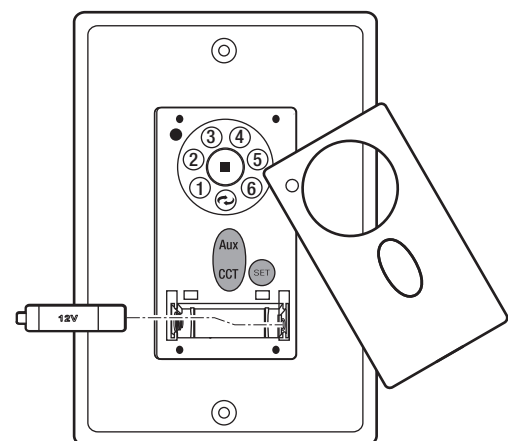

Figure 16
Remove the panel from the transmitter and then install one 23A/12V battery (included). To prevent damage to transmitter, remove the battery if not use for long periods of time. (Fig. 16)
3. Within 30 seconds of turning AC power on, press and release the "SET" button five seconds to enter the learning function. The down light of your fan, if applicable, will blink twice, and the fan will automatically begin to operate and start to rotate in counterclockwise direction and on the highest RPM for 1 minutes. When counterclockwise rotation has finished, the fan will automatically reverse to clockwise direction again to the highest RPM for 1 minutes. Fan will shut off when the self-calibration test has finished. The total self-calibration test will last about 2 minutes. (Fig. 16)